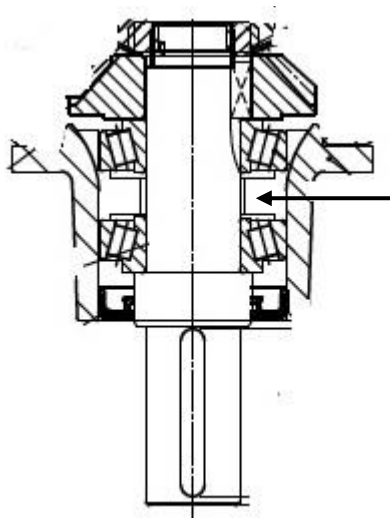

Figure 88
4. Remove the bearings from the shaft by pressing the bearings and gear off the shaft. Figure 88
6. Make certain that the spacer is between the bearings. Press the bearings on the shaft until they are against the collar on the shaft. Figure 88